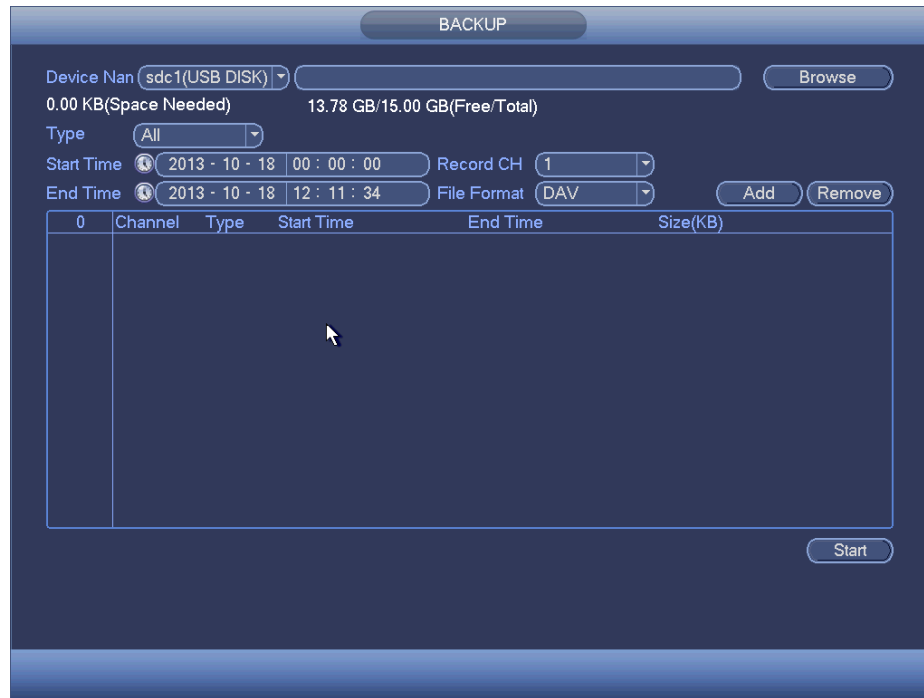

Figure 3-67
- From Main menu->Backup, you can go to the Backup interface. See Figure 3-67.